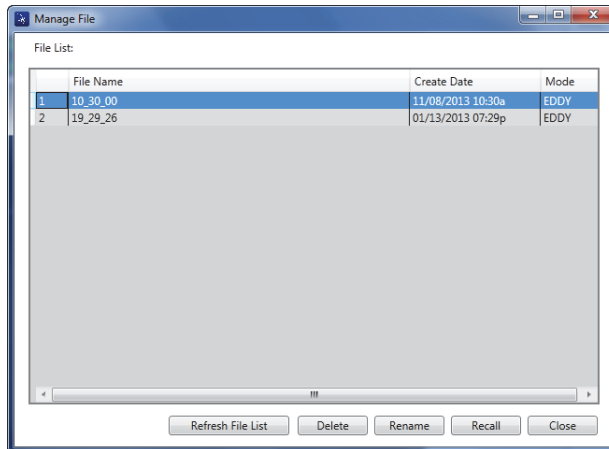

Figure 7-17 The Manage File dialog box
The **Manage File** dialog box appears (see Figure 7-17 on page 205).
1. In the **Manage File** dialog box, choose the file to be deleted, and then click **Delete** (see Figure 7-17 on page 205).
1. In the **Manage File** dialog box, choose the file to be renamed, and then click **Rename** (see Figure 7-17 on page 205).
1. In the **Manage File** dialog box, choose the file to be recalled, and then click **Recall** (see Figure 7-17 on page 205).
- ◆ In the **Manage File** dialog box, click **Refresh File List** (see Figure 7-17 on page 205).